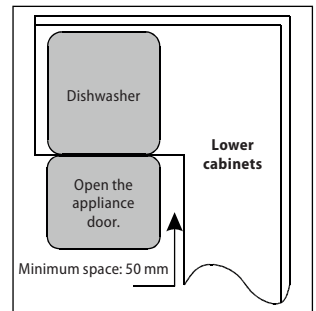

Fig. 14
- If the dishwasher is installed in a corner of the lower cabinets, make sure there is a free space around the open dishwasher door 50 mm (Fig. 14).